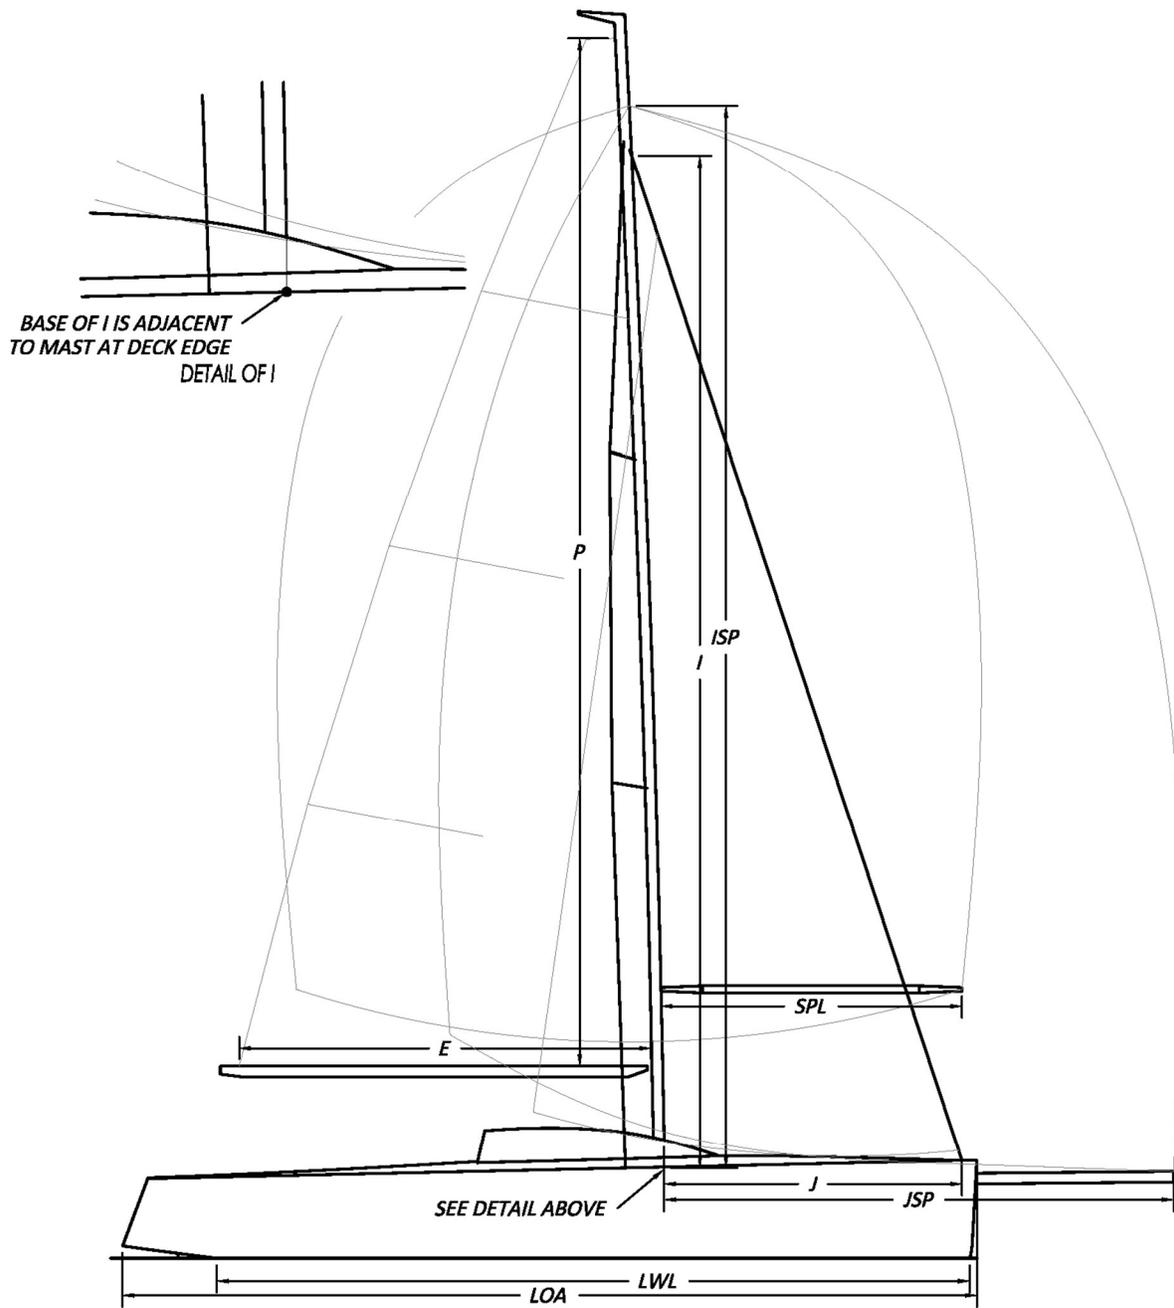

FIGURE 1 - SAIL PLAN, RIG AND VESSEL DIMENSIONS
- Relevant dimensions can be found in Figures 1 and 5 .
- Relevant dimensions can be found in Figures 1 and 4
- a. Relevant dimensions can be found in Figure 1